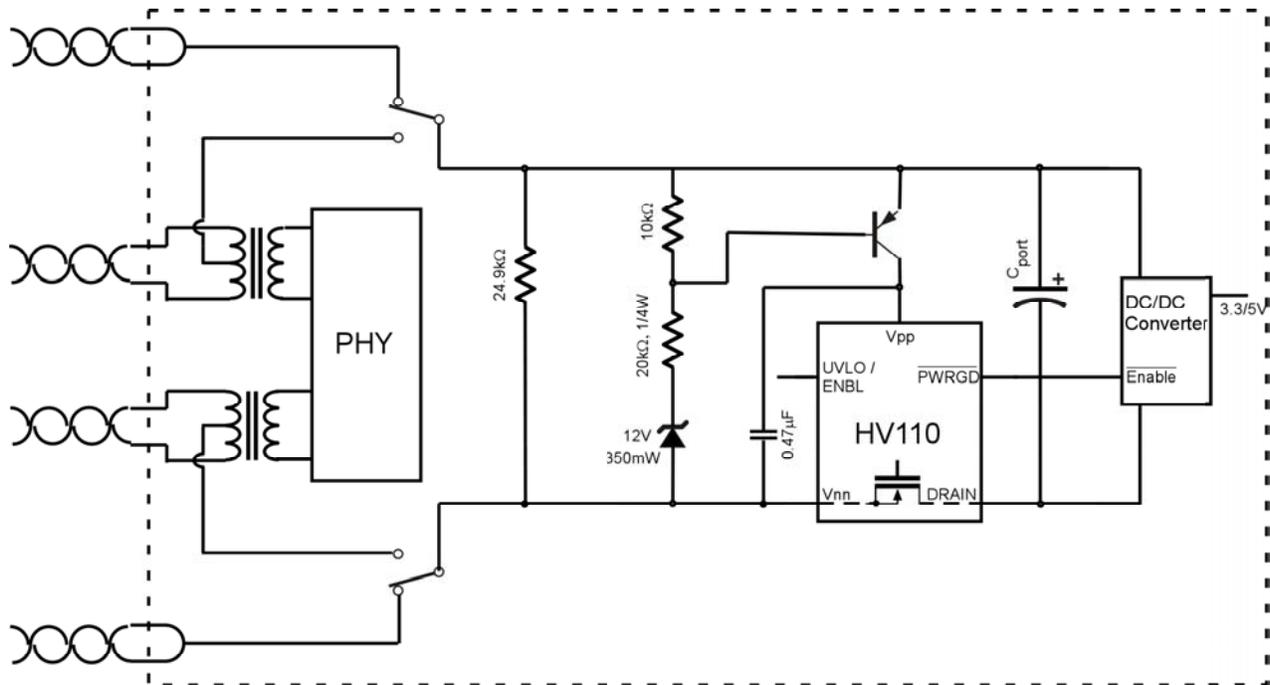

Figure 10. Powering HV110 using a PNP transistor instead of a zener
- ❑ Meets the turn-on and turn-off thresholds for the PD device & has a built-in 8V hysteresis (with PNP transistor as shown in Figure 10).
Because of the zener diode connected to V_{PP} pin, it will be necessary to modify the internal UVLO thresholds by using two external resistances as shown in Figures 1, 9 and 11, to provide the UVLO turn-off and turn-on voltages to meet the IEEE 802.3af standard. These two resistors perform dual functions, UVLO voltage adjustments and also the Signature Detection function (i.e. represent the 25k impedance). Figure 10 shows a different implementation using a PNP transistor which allows the use of the HV110's internal UV circuit.
Figure 10 shows the modified circuit. In the Discovery stage, the input voltage is less than 10V. This causes the zener to be reverse biased and hence there is no base current to the PNP transistor. Once the input voltage increases beyond 12V, the zener starts conducting, which provides a base current path for the PNP transistor. The transistor goes into the saturation region, essentially pulling V_{pp} to the rail.